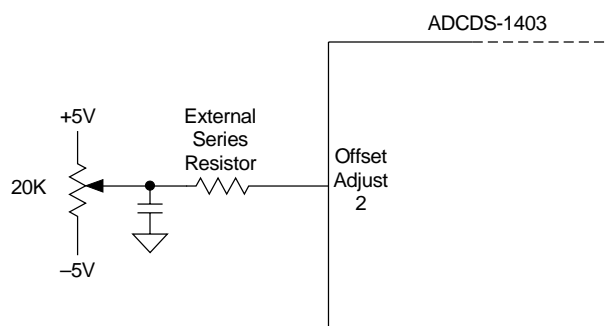
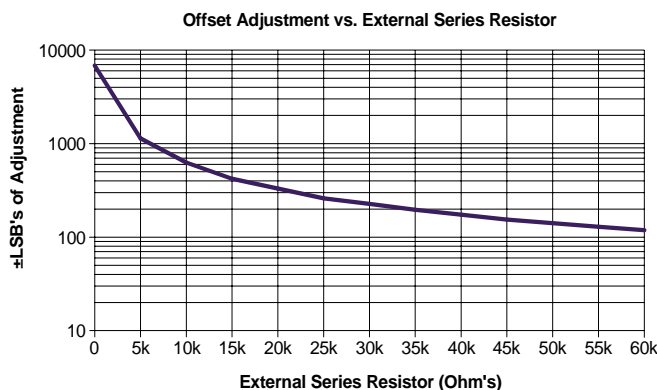

Figure 3. Offset Adjustment Circuit
Figure 6. Offset Adjustment vs. External Series Resistor
- If using the suggested offset and gain adjust circuits (Figure 3 & 5), place them as close to the ADCDS-1403's package as possible.
Manual offset adjustment for the ADCDS-1403 can be accomplished using the adjustment circuit shown in Figure 3. A software controlled D/A converter can be substituted for the 20K $\Omega$  potentiometer. The offset adjustment feature allows the user to adjust the Offset/Dark Current level of the ADCDS-1403 until the output bits are 00 0000 0000 0000 and the LSB flickers between 0 and 1. Offset adjust should be performed before gain adjust to avoid interaction. The ADCDS-1403's offset adjustment is dependent on the value of the external series resistor used in the offset adjust circuit (Figure 3). The Offset Adjustment graph (Figure 6) illustrates the typical relationship between the external series resistor value and its offset adjustment capability utilizing  $\pm 5V$  supplies.